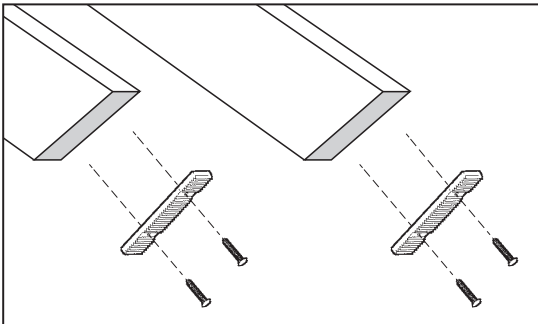

FIGURE 12
- E. Install rubber tread to bottom ends of rail using 1" screws provided. Drill 1/16" pilot holes into wood prior to installing screws to prevent splitting of rail (Figure 12).